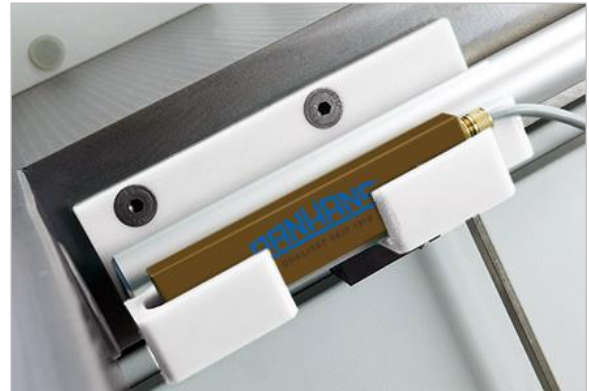

Figure 21: Tool tray for pin spanner
1. First remove the supplied SW8 pin spanner from the tool tray (shown in ⇨ Figure 21).
2. Press the emergency stop button (4) and leave it locked.